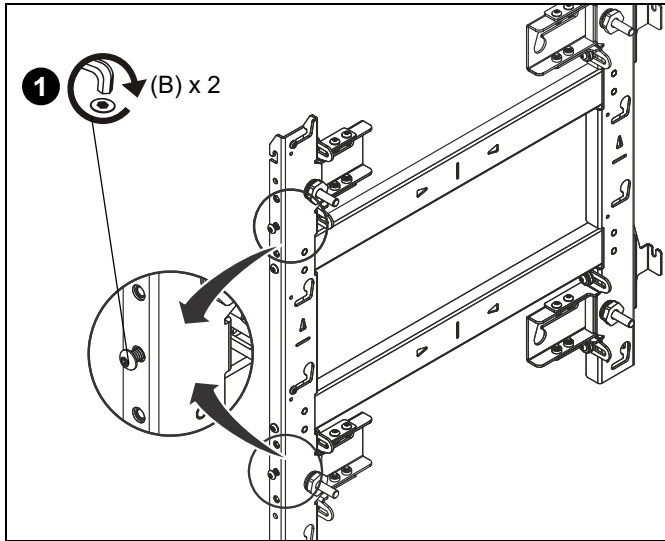

Figure 13
1. Partially install two 1/4-20 x 1/2" button head screws (B) into the left side of the next mount. (See Figure 13)